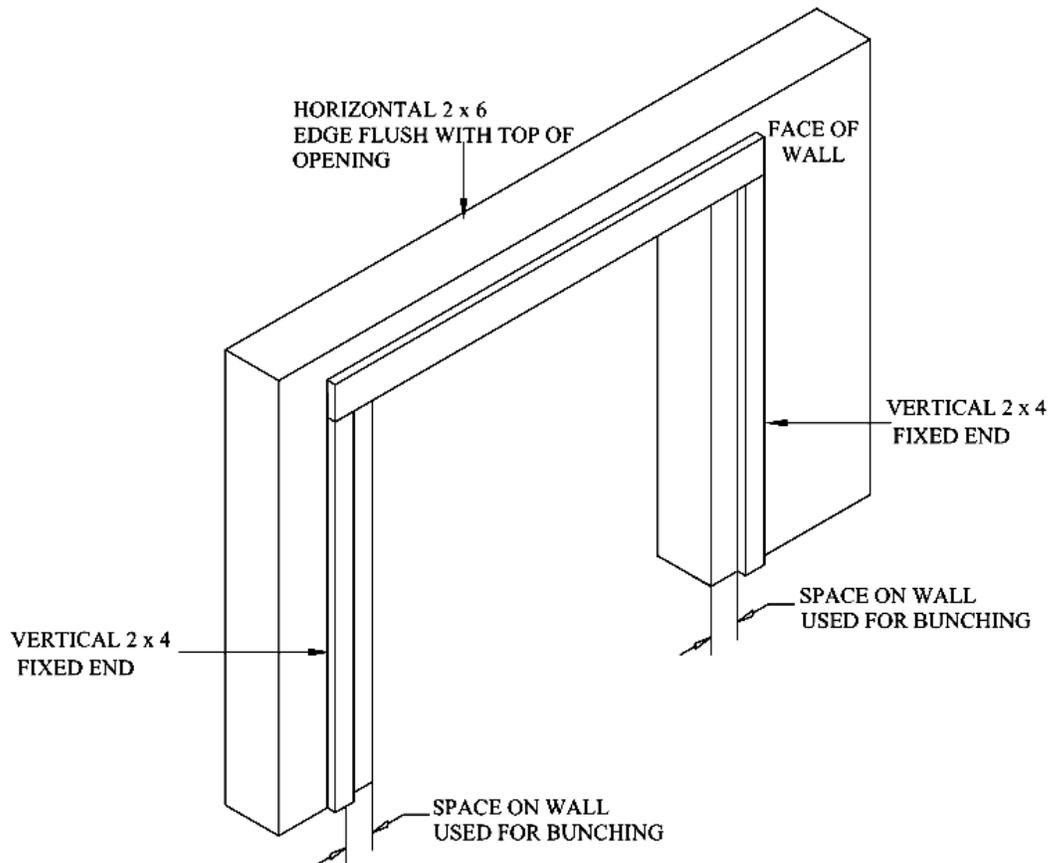

FIGURE 1
2. Install the lumber on the doorway (See Fig.1).